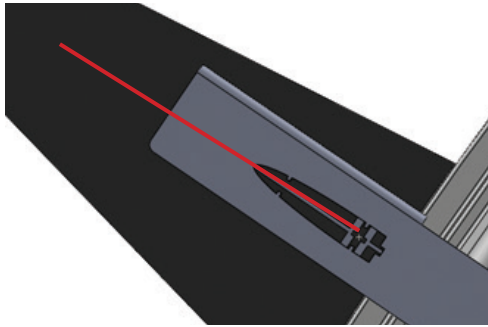

Figure 1.14 – Vehicle Paths Parallel to Long, Narrow Bar
- 4 Roll the sensor until the long narrow bar is parallel with the center of the lanes of interest on the roadway. Vehicle paths should be parallel to the long narrow bar (see Figure 1.14).